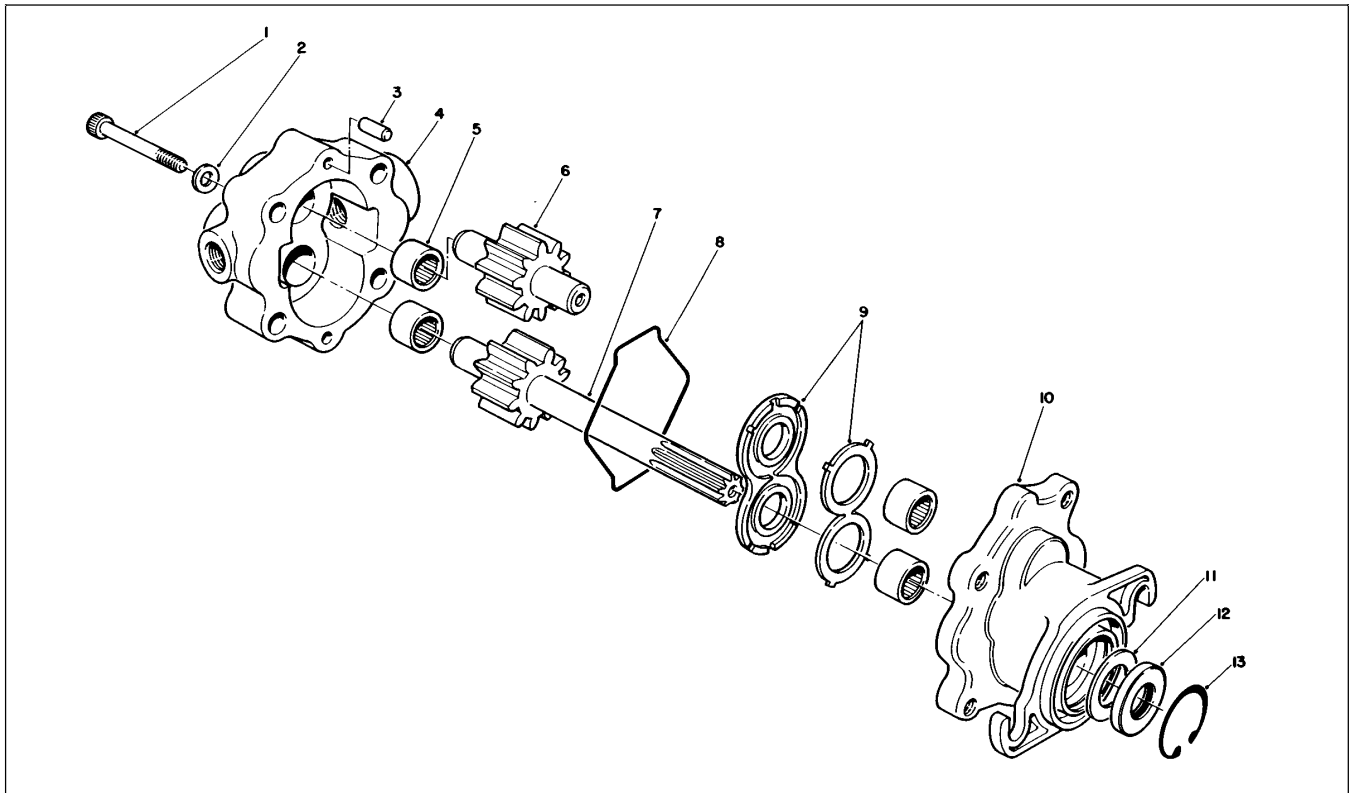

Figure 96
3. Remove four socket head capscrews (Fig. 96).